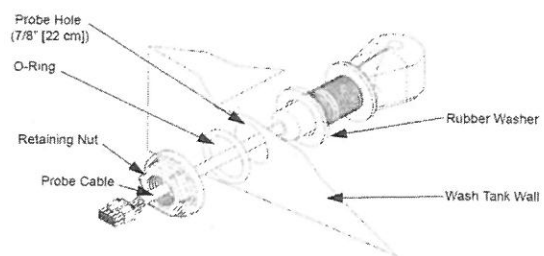

Figure 3.5
3. From the inside of the tank, route the wire through the hole until the probe is against the wall of the wash tank. Secure the Inductive Probe to the wash tank using the provided retaining nut with the O-Ring against the outside surface of the tank wall. The nut end of the Inductive Probe must be on the outside of the machine wall, refer to Figure 3.5